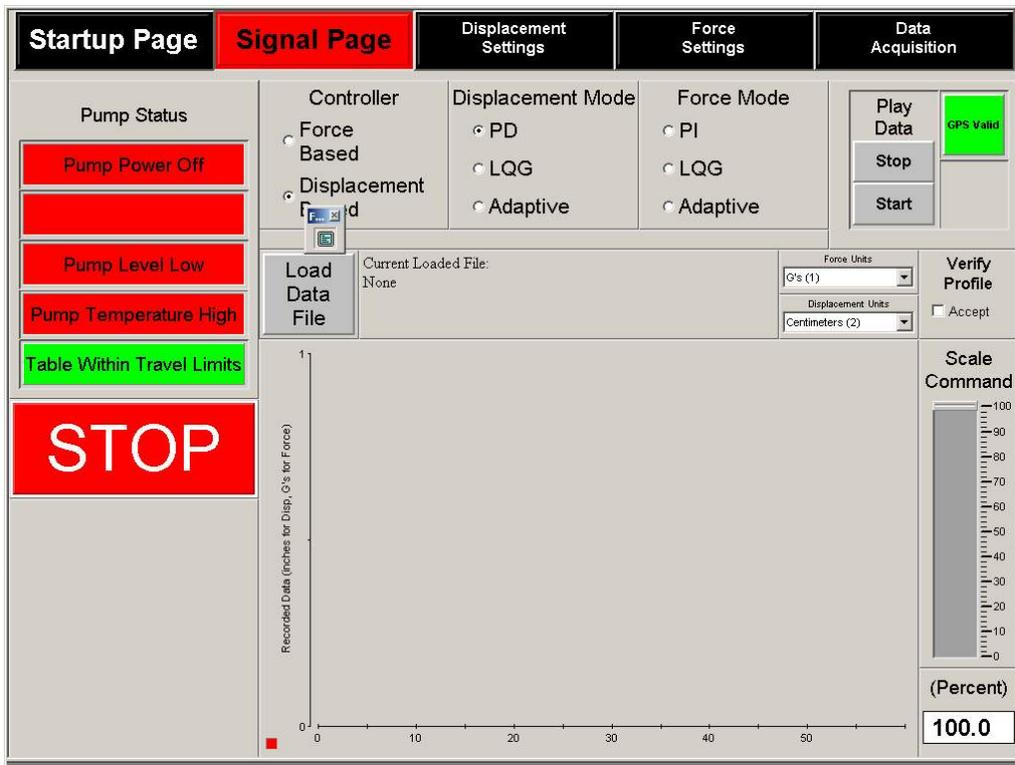

Figure 2.
- Make sure "Controller" in "Signal Page" is set to "Displacement Based" and "Displacement Mode" is set to "PD" as in Figure 2.